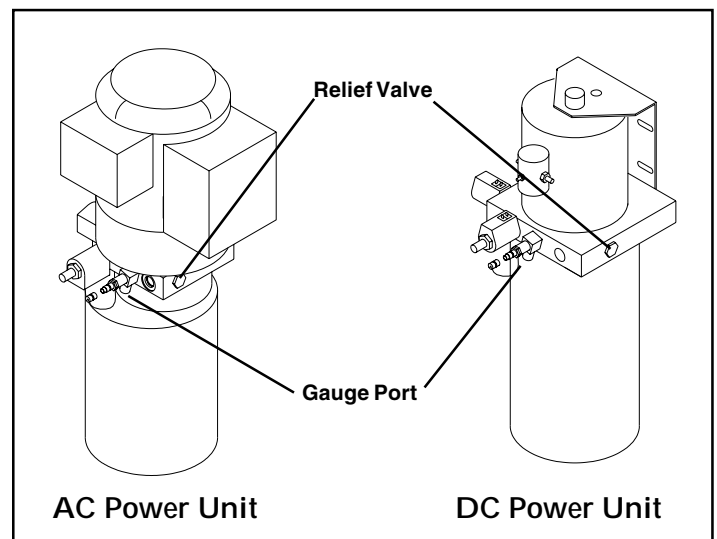

Figure 4-4: System Relief Valve
## 4.4 Setting System Relief Valve (Figure 4-4)
5. Remove the cap from the System Relief Valve (fig. 4-4), and turn the adjustment screw counterclockwise two full turns.
7. Turn the System Relief Valve Clockwise (fig. 4-4) until the machine begins to rise.